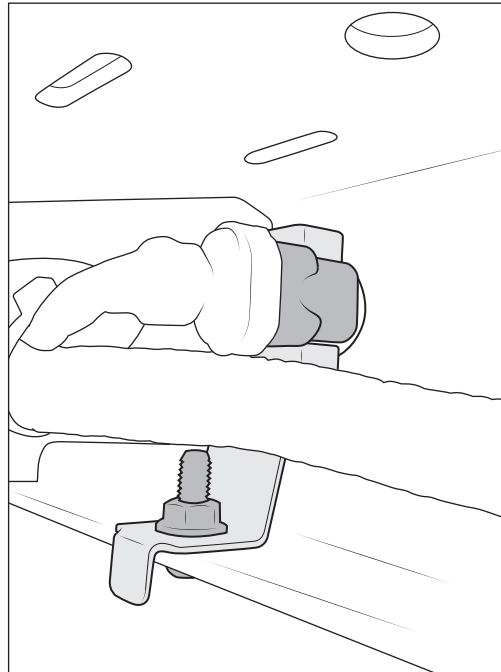

Figure 23
8. If equipped, install two center park sensors onto center section using two of the supplied stainless steel brackets, M6x20 Button head bolts, and washers (fig. 23). It is important that the sensors are installed in the correct orientation. Connectors should be facing inboard when installed. The supplied brackets are designed to allow for bending/adjusting to provide a proper fit. NOTE: 2010–2018 Trucks will need to swap out the rubber isolator rings on all four park sensors with the supplied isolator rings (fig. 24).